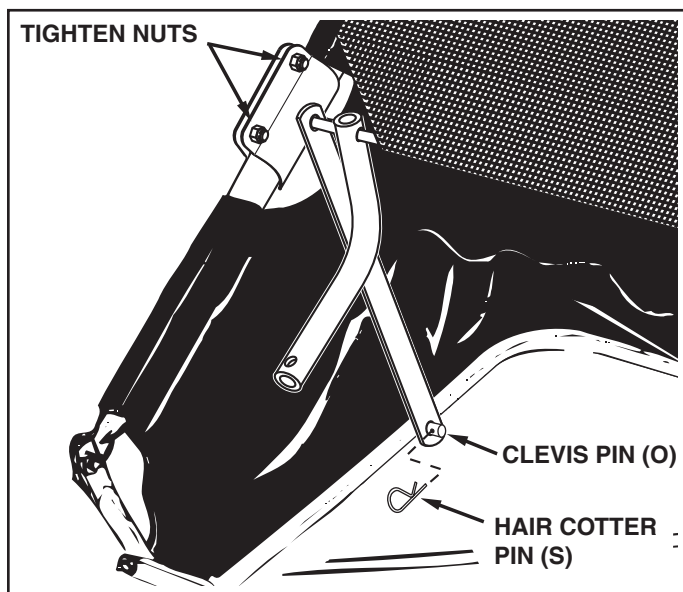

FIGURE 19
- Attach the bottoms of the hopper support straps to the clevis pins (O) in the lower hopper tubes, securing the straps with the previously assembled hair cotter pins (S). See figure 19.
- Tighten the nuts on the hopper mount clamps. See figure 19.
- To adjust your sweeper brushes to the best operating height, loosen the adjustment knob and push down on the height adjustment handle to raise the brush, or push up on the handle to lower the brush. See figure 19. Best adjustment is when the brush setting is 1/2" down into the grass. Always mow the grass to an even height before sweeping.